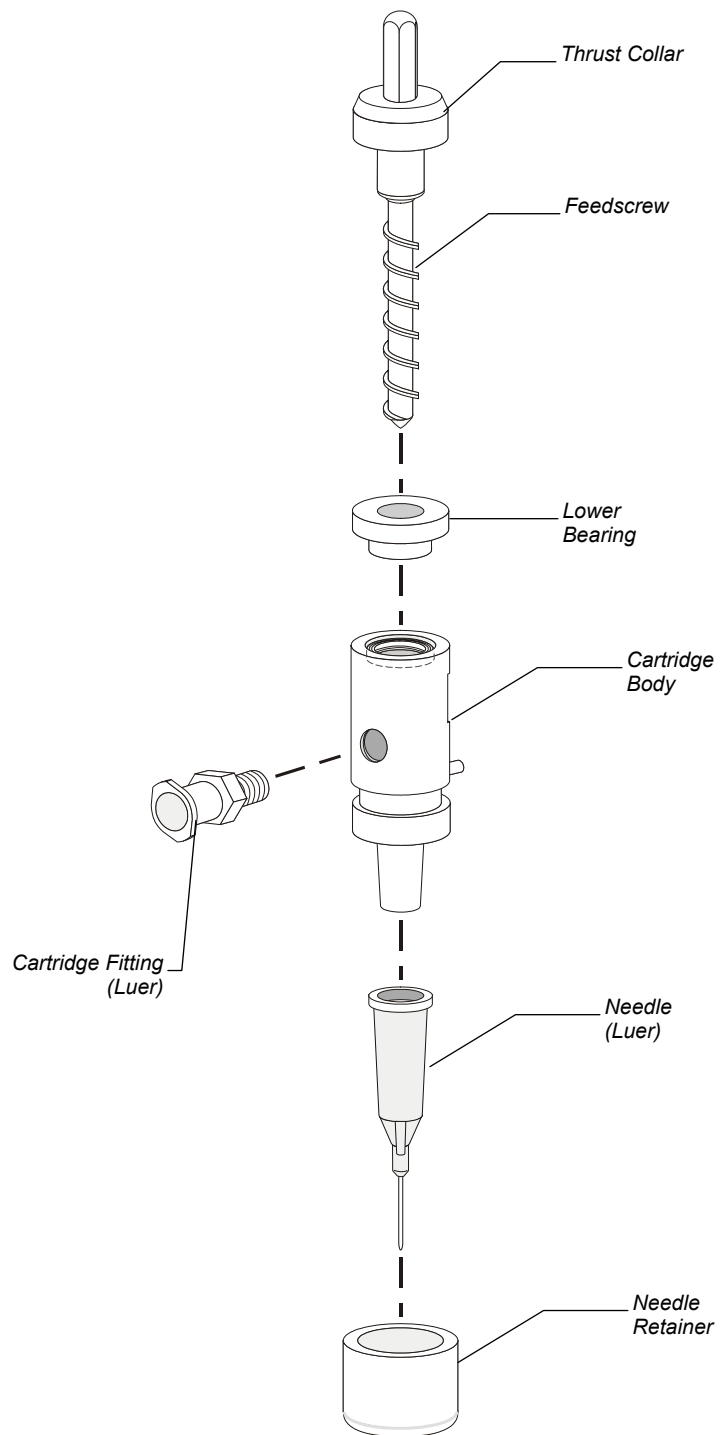

Figure 4-2 Dispensing Cartridge Exploded
3. Gently press the lower bearing down on top of the cartridge body (Figure 4-2).